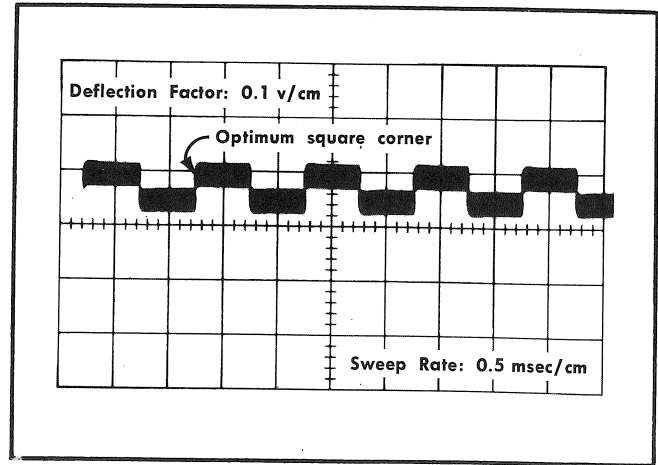

Fig. 5-22. Typical common-mode rejection waveform obtained when C308A is adjusted properly.
d. Check the display. If necessary, adjust shunt capacitor C308A (Fig. 5-21b) in the —Input 100X attenuator for optimum square corner on the waveform so it matches the one obtained when performing step 39c. Fig. 5-22 is a typical waveform that should be obtained if C308A is adjusted properly.